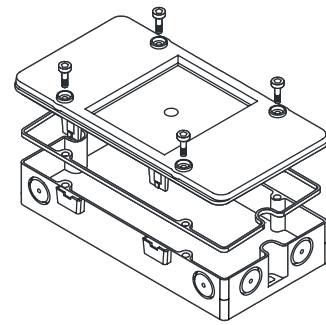

Fig. 4
5. Fix the lid additionally with four screws (Fig. 4). (Only this way is IP65 protection guaranteed.)